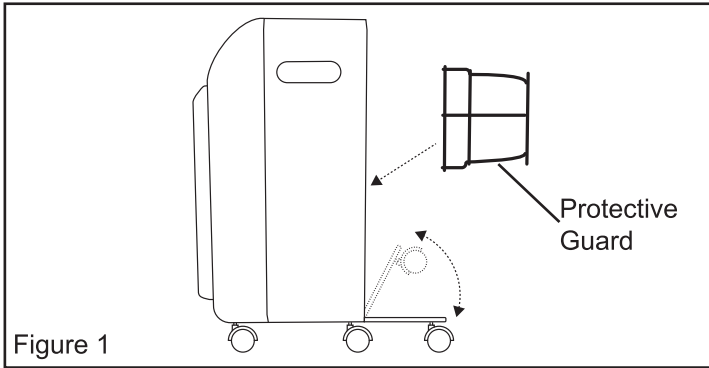

Figure 1
2. Fold propane tank tray down (see Figure 1)